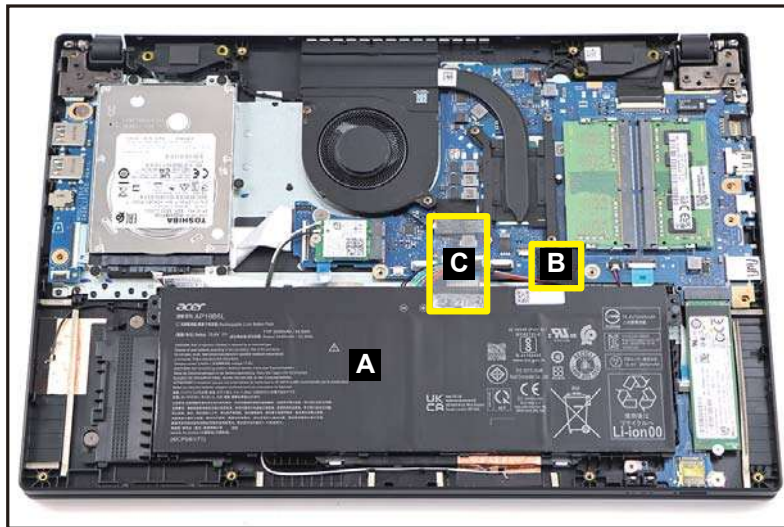

Figure 3-7. Battery Pack Removal
1. Find the battery pack (A) in the system (Figure 3-7).
2. Detach the tape (B) securing the battery cable connection (Figure 3-7).
3. Detach the transparent mylar (C) securing the cables (Figure 3-7).